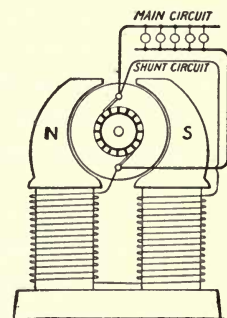

FIG. 86.—Shunt-Wound Dynamo.
**235. Shunt Machine.**—A shunt dynamo (Fig. 86) is a machine which has only a portion of its total current passing through the field magnet coil. It is used in all cases where it is desirable to have a constant pressure voltage at all loads, as in the case of the ordinary parallel or multiple system used for lighting buildings. The shunt machine is used in large plants, where the diversity